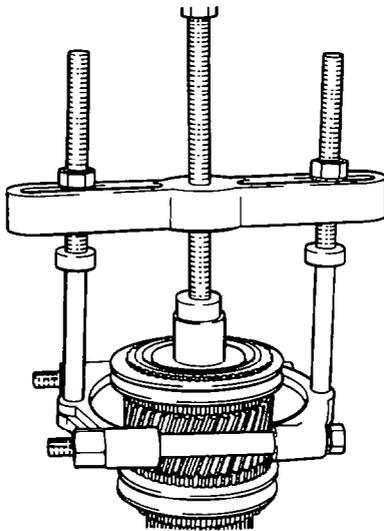

Figure 41 Removing 2nd/6th Gear
- (3) Use a suitable puller to remove the 2nd/6th speed gear (17) and synchrohub from the mainshaft (see Fig 41).
- (4) Rotate the assembly through 180° so that the sun-gear is uppermost; clamp the assembly in the vice.